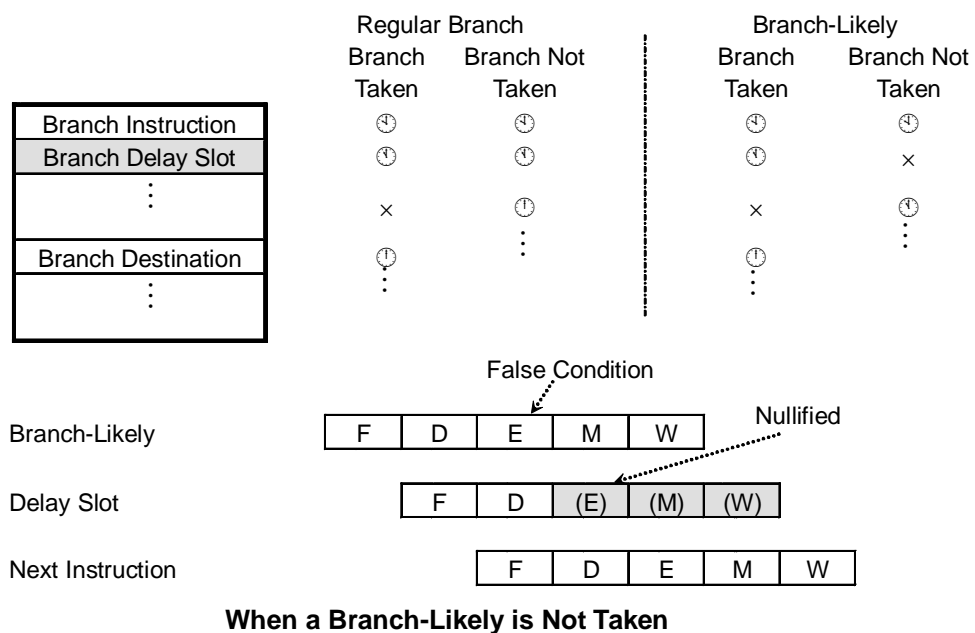

Figure 5-17 Branch-Likely Instruction
On the other hand, a branch-likely instruction causes the TX19A to nullify the instruction in the delay slot at the Execute (E) stage if the branch is not taken. If a branch is taken, the instruction in the delay slot is executed. This approach allows the compiler to fill a branch delay slot with the branch target instruction (see Figure 5-17).